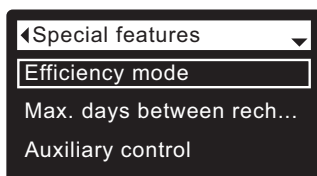

FIG. 82
5. Press the SELECT (O) button to display the Special features menu (See Figure 82).
9. Press the SELECT (O) button. The display will go back to the Special features menu (Figure 82).